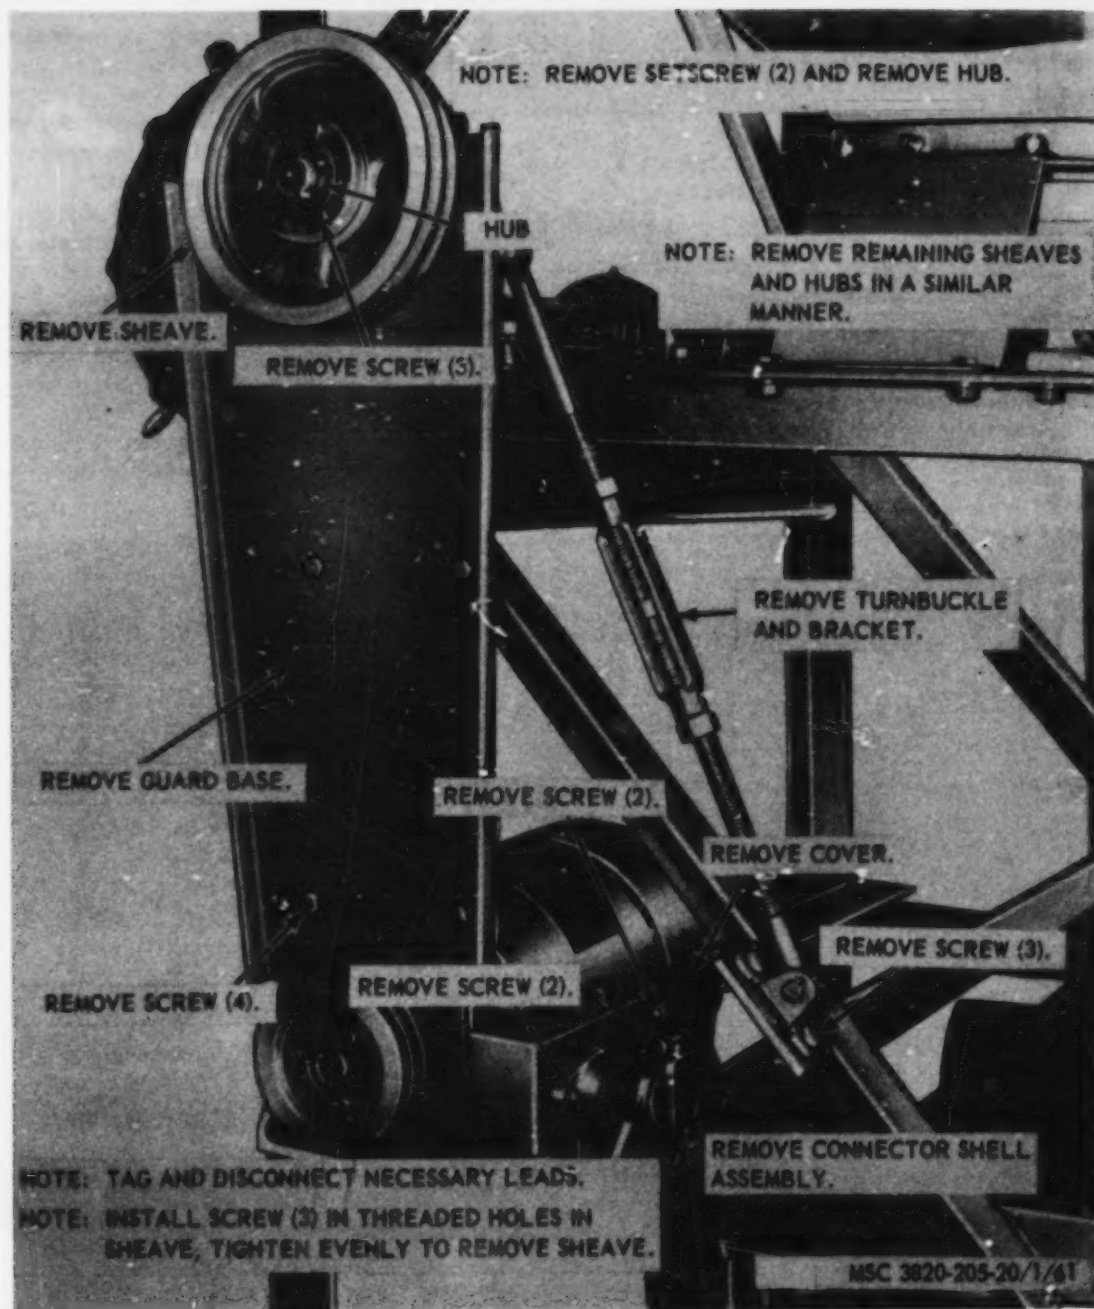

Figure 61. Turnbuckle, sheave, hub, connector, and guard base, removal and installation.
- (1) Remove the outer belt guard (TM 5-3820-205-10/1).
- (2) Remove the belts (par. 119).
- (3) Remove the sheave, hub, and guard base from the unit as instructed on figure 61.
- (1) Install the guard base, hub, and sheave in the unit in reverse of the instructions on figure 61.
- (2) Install the belts (par. 119).
- (3) Adjust the belts (TM 5-3820-205-10/1).
- (4) Install the outer belt guard (TM 5-3820-205-10/1).
a. Removal. Remove the connector shell assembly from the electric motor as instructed on figure 61.
c. Installation. Install the connector shell assembly on the electric motor in reverse of the instructions on figure 61.